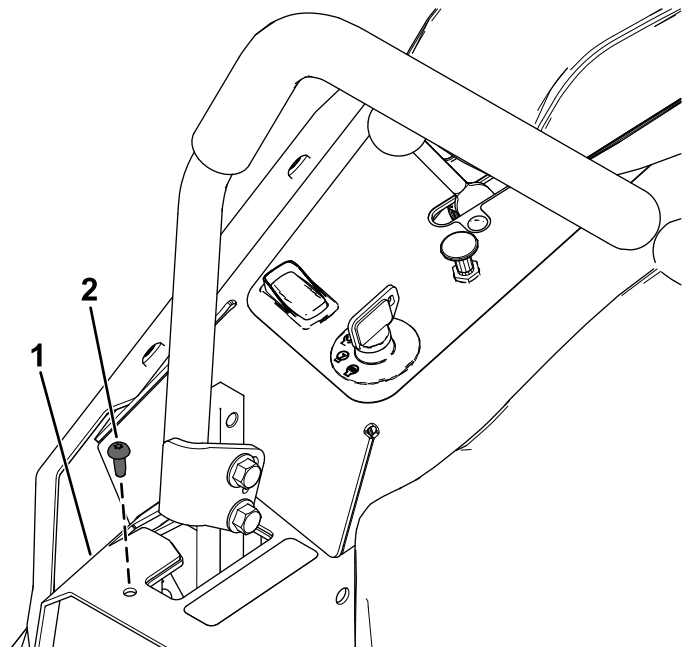

Figure 10
3. Remove the self-threading screw from the right motion-control cover (Figure 10). Retain the self-threading screw.